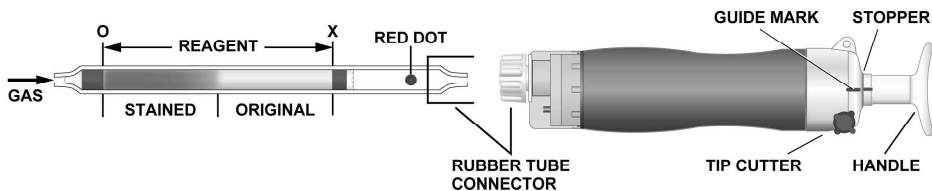

Fig.1
- ② Insert the detector tube into the aspirating pump securely as shown in Fig.1.
- ③ Align the guide marks on the shaft and stopper of the aspirating pump.
- ④ Pull the pump handle at a full stroke until it locks and wait for 3 minutes or until the completion of sampling is confirmed with the flow indicator of the pump. (See descriptions about the flow indicator in the instruction manual of the pump.)
- ⑤ On completion of sampling, remove the detector tube from the pump and read the enclosed concentration with the concentration chart in the following way.
- ① Temperature; No corrections is necessary
- ② Humidity; No corrections is necessary.